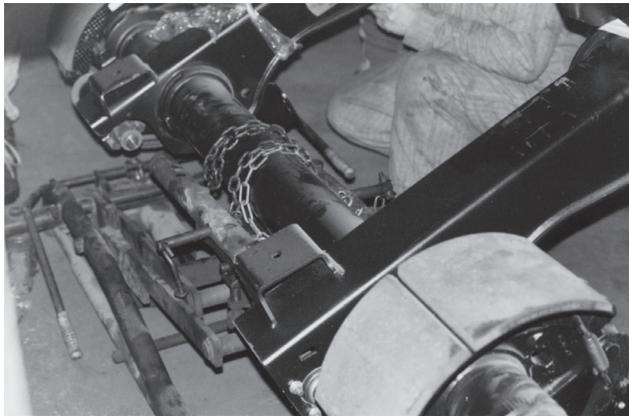

Figure 7: New HALFTRAAX™ secured to transmission jack
3. **Position** a jack, preferably a transmission jack, under the center of the HALFTRAAX (Figure 7). **Secure** the HALFTRAAX to the jack if possible. **Move** the assembly into an installation position under the trailer.